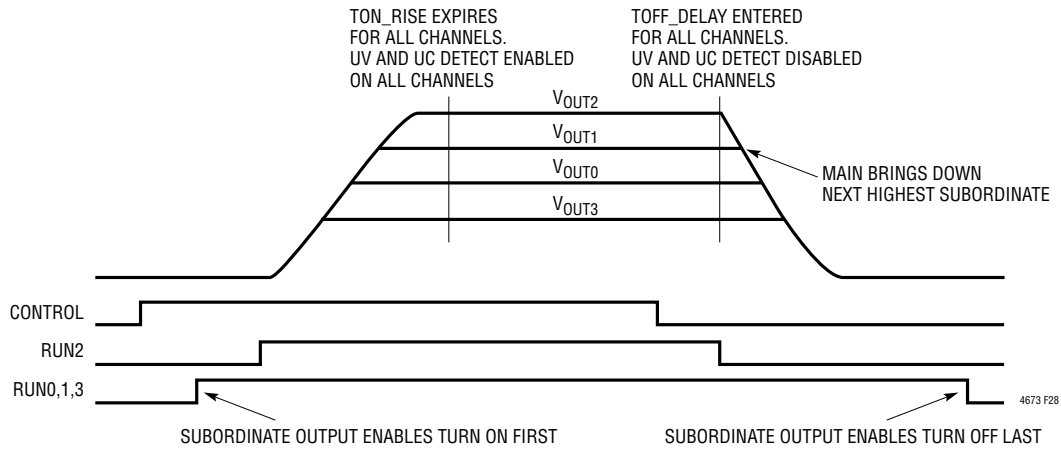

Figure 28. Control Pin Tracking All Supplies Up And Down
The system response to a control pin toggle is illustrated in Figure 28.
For the coincident output tracking shown in Figure 28, the main's output slew rate (MR) is the same as the subordinate's output slew rate (SR), Equation 14.